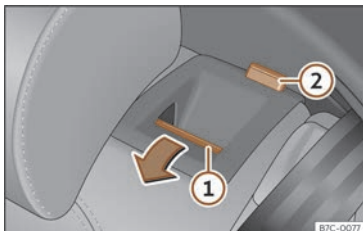

Fig. 90 Rear seat: folding down the backrest.
- Press the unlock button >>> **Fig. 90** ① forwards and at the same time fold the backrest down. The rear seat backrest is not engaged when the red marking of the button ② is visible.